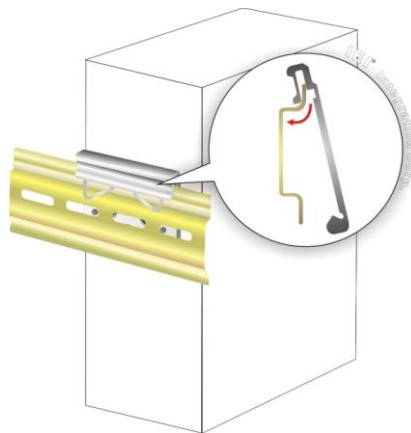

Figure 3-11: Attach the Mounting Bracket to the DIN Rail
Step 2: Attach the upper edge of the mounting bracket to the DIN rail as shown in **Figure 3-11**